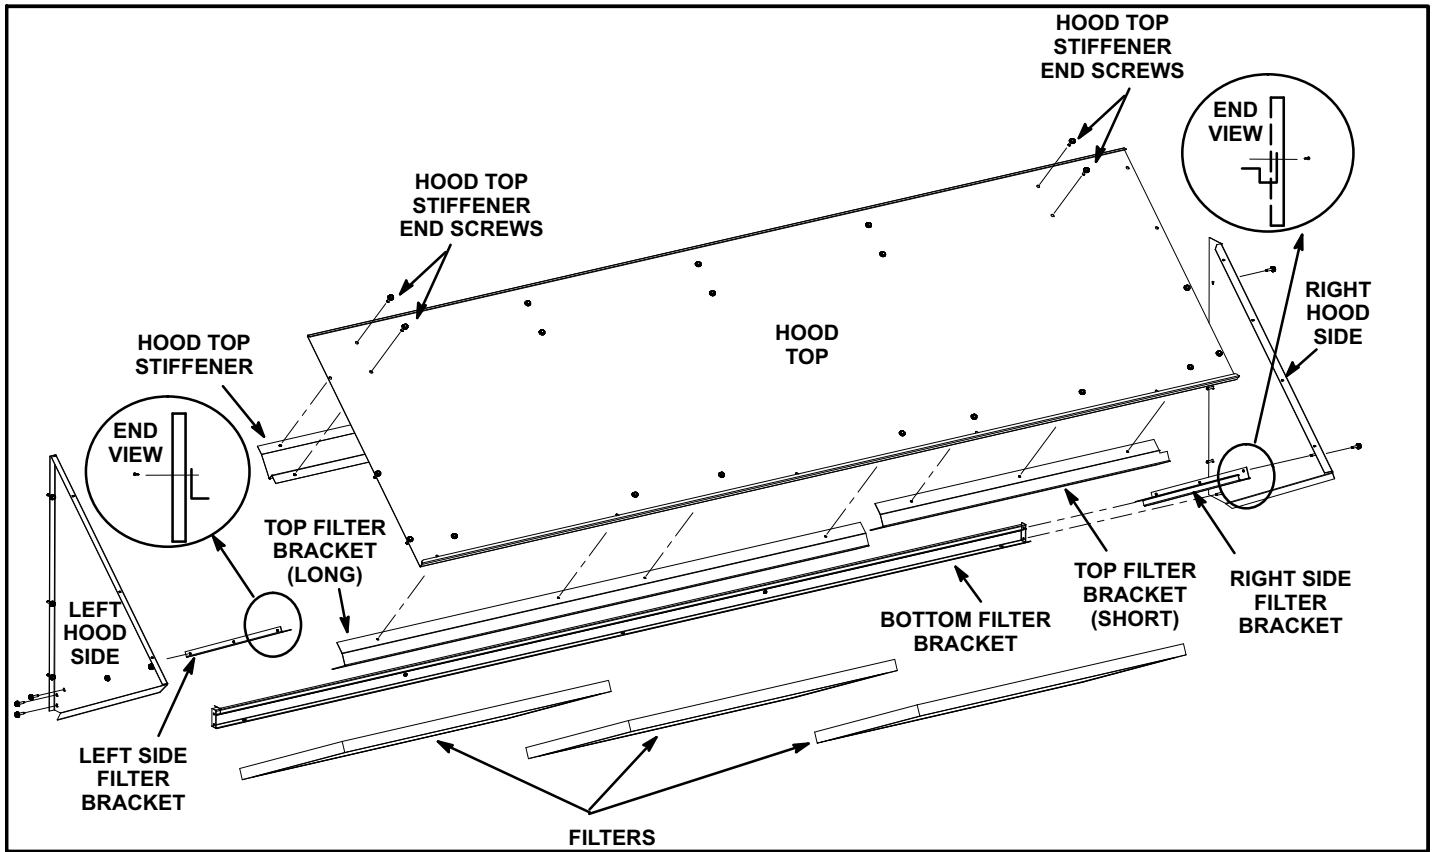

FIGURE 5
- 8- Install L-shaped left side filter bracket to left hood side. See figure 5.
- 10- Install the right side filter bracket to the right hood side. See figure 5.